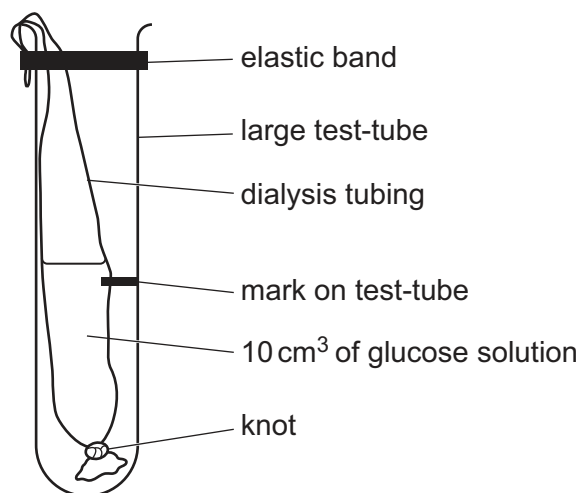

Fig. 1.2
- step 6 Put the dialysis tubing containing **R** into the large test-tube and keep it in position using an elastic band as shown in Fig. 1.2.